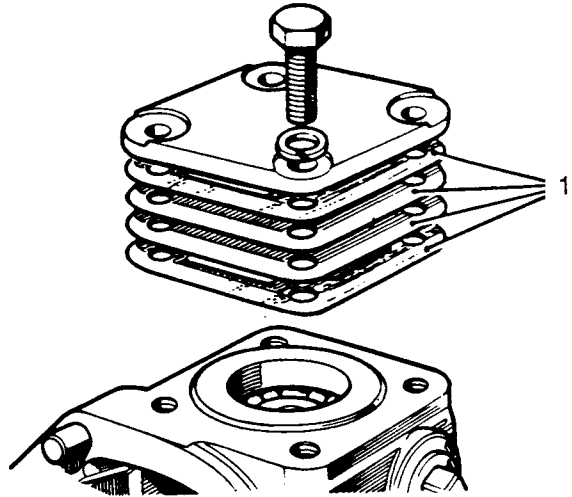

Fig L5.9
- (13) Refer to Fig L5.9. Check for end-float on the steering column. Adjust the shim washer (1) thickness between the end cover and the steering box to obtain a 'free to rotate but no end-float' condition on the inner column.
- (14) Set the steering in the straight ahead position (midway lock to lock).
- (15) Screw the steering box adjuster by hand until there is no end-float between the adjuster and the rocker shaft. Screw in a further one half flat (maximum) to allow for locknut tightening.
- (16) Tighten the adjuster locknut ensuring that the adjuster does not move.
- (17) Fill the steering box with the correct grade of lubricating oil.
- (18) Replace the steering column and box assembly (see Sub-section L4, Chapter 3).